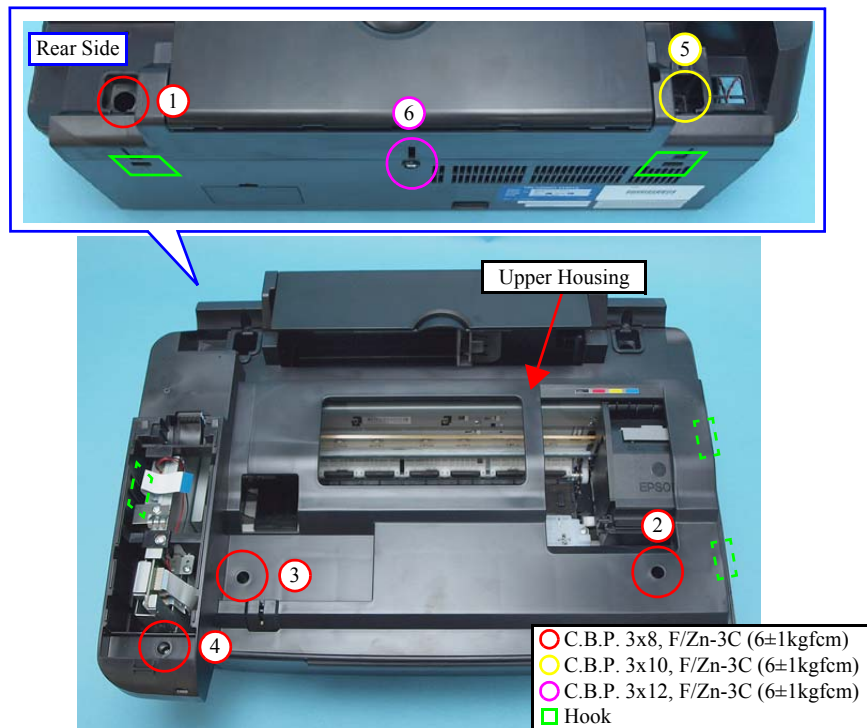

Figure 4-13. Removing the Upper Housing
- Tighten the screws in the order given in Figure 4-13.